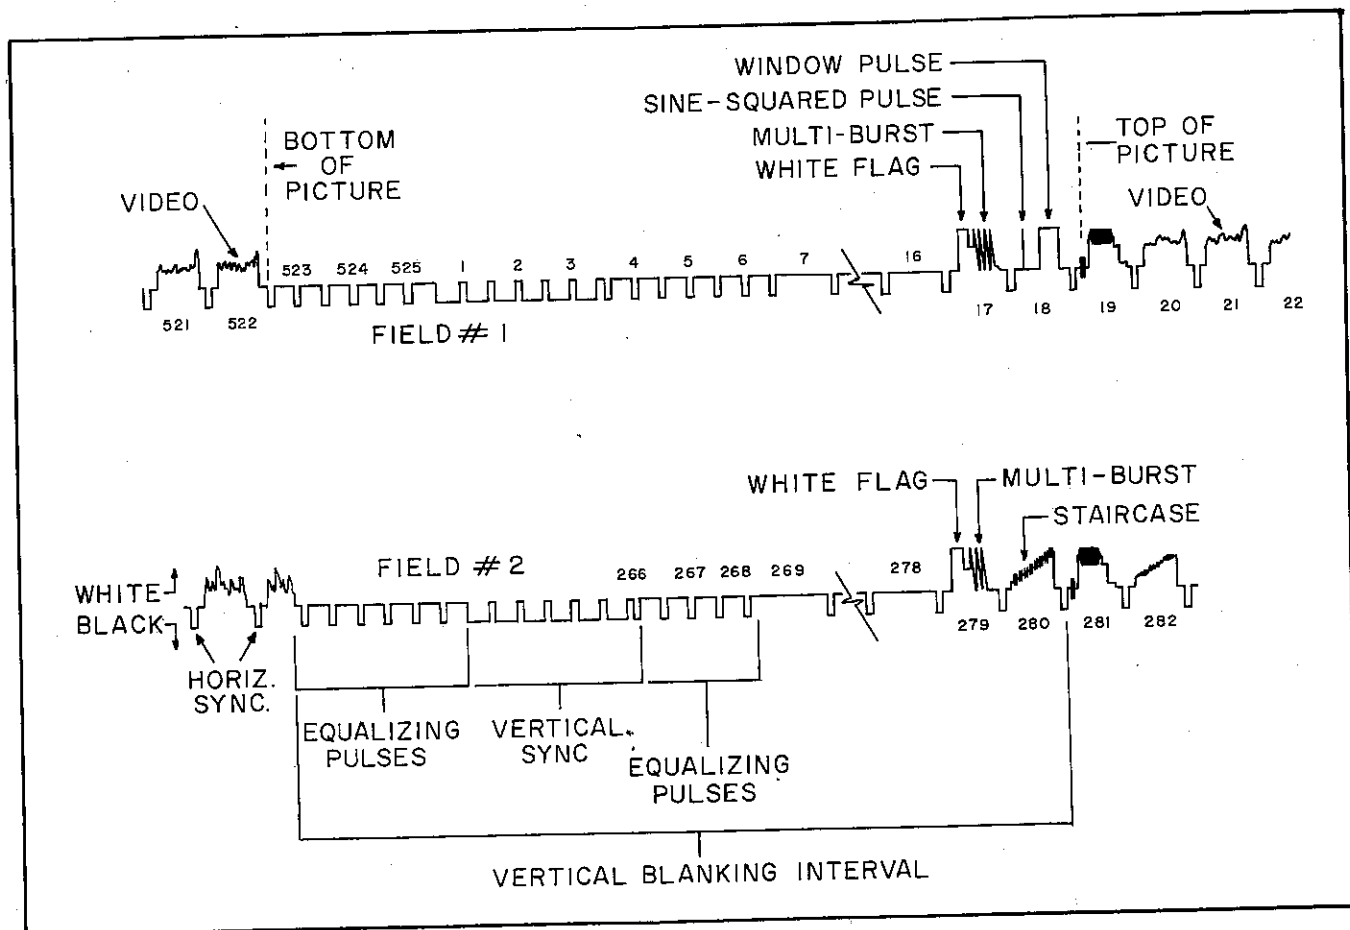

Fig. 18. Vertical blanking interval showing typical VITS and VIR information.
The transmitted VITS and VIR are precision sequences of specific frequencies, amplitudes, and waveshapes. The television networks use the precision signals for adjustment and checking of network transmission equipment, but the technician can use them to evaluate television set performance. The make-up of the VITS varies from one broadcast station to another. Figs. 18 and 19 show typical VITS signals. The VITS normally contain a "multiburst" signal which typically begins with a "flag" of white video, followed by sine wave frequencies of 0.5 MHz, 1.5 MHz, 2 MHz, 3 MHz, 3.6 MHz, (3.58 MHz) and 4.2 MHz. The multiburst may appear on line 17 or 18, and may be repeated on line 279 or 280. As seen on the television screen, field #1 is interlaced with field #2 so that line 17 is followed by line 279 and line 18 is followed by line 280. The VITS and VIR appear at the end of the vertical blanking interval and just before the first line of video. The VIR signal is transmitted on lines 19 of fields #1 and #2 (line 19 of field #2 also is identified as frame line 281).
- Set the SWEEP TIME/CM control to the .1 mS/cm position. This expands the display by increasing the sweep speed. The vertical interval information will appear toward the right hand portion of the expanded waveform displays. The waveform information on each trace may appear as shown in the drawings of Fig. 18. Because there is no provision for synchronizing the oscilloscope display to either of the two fields which comprise a complete vertical frame, it cannot be predicted which field display will appear on the Channel A or Channel B display.